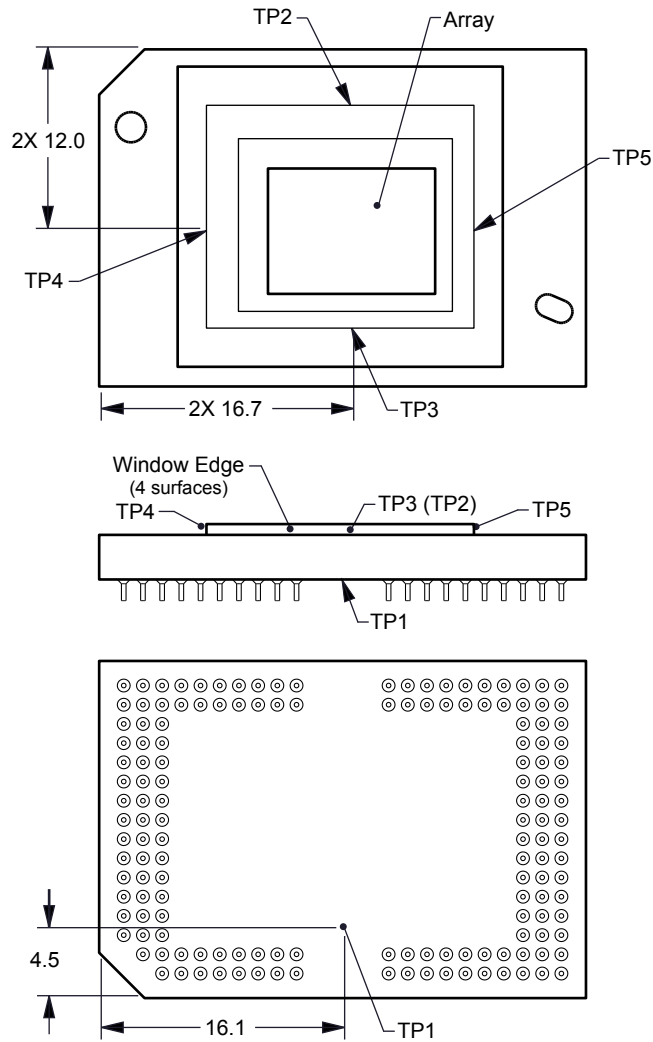

图 7-1. Thermal Test Point Location
Micromirror array temperature cannot be measured directly, therefore it must be computed analytically from measurement points on the outside of the package, the package thermal resistance, the electrical power, and the illumination heat load. The relationship between array temperature and the reference ceramic temperature (thermal test TP1 in 图 7-1) is provided by the following equations:
- T_{CERAMIC} = Measured ceramic temperature (°C), TP1 location in 图 7-1